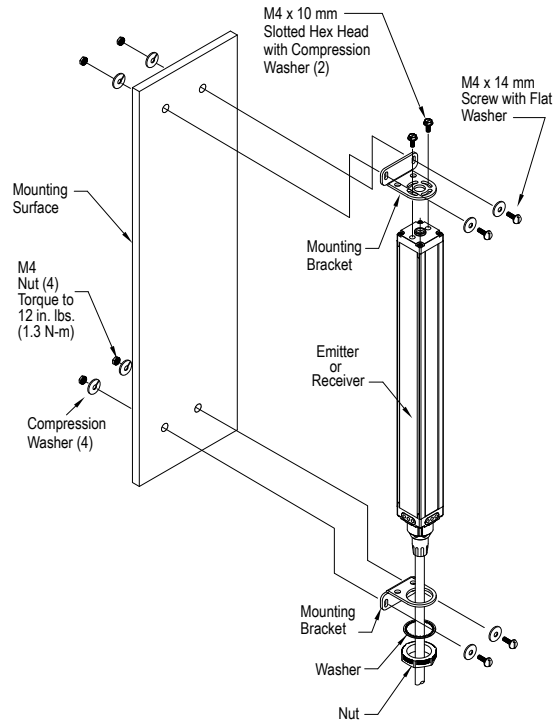

Figure 2. MINI-ARRAY emitter and receiver mounting hardware
1. Mount the emitter and receiver in their mounting brackets (see Figure 2 (p. 12)).